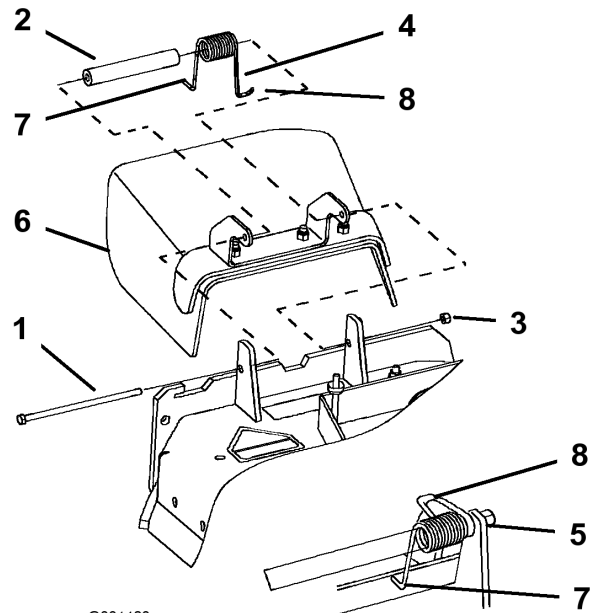

Figure 61
1. Remove the locknut, bolt, spring and spacer holding the deflector to the pivot brackets (Figure 61). Remove damaged or worn grass deflector.
Note: Make sure the L end of spring is installed behind deck edge before installing the bolt as shown in Figure 61.
3. Install bolt and nut. Place the J hook end of spring around grass deflector (Figure 61).